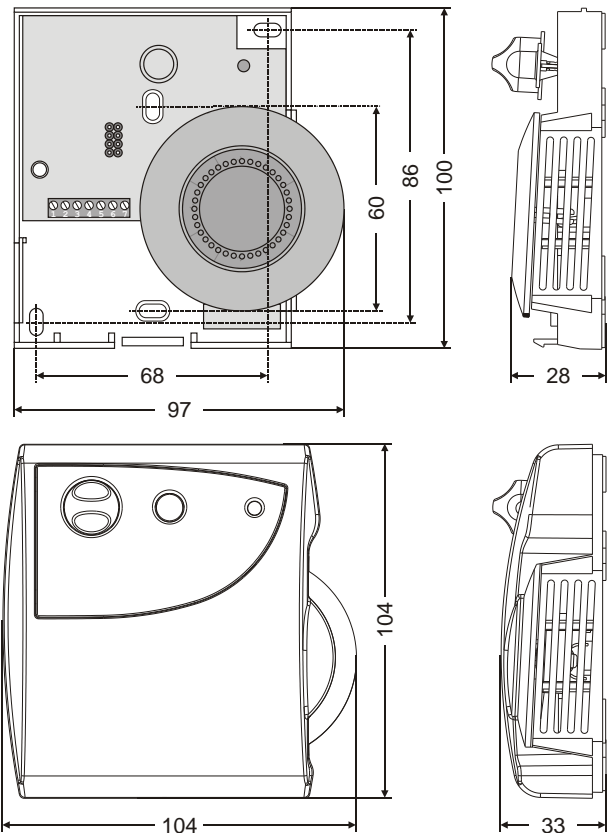

Fig. 2. Bore-holes and dimensions (mm)
The wall modules can be mounted on a 60-mm wall outlet box using 3.5-mm screws or on a wall (see Fig. 2). When mounting directly on a wall, use the type of screws appropriate for the wall material. See Fig. 2 for bore-holes and mounting dimensions (the CLCM5T,6T are shown but the dimensions are the same for all models).
3. Mount the wall module onto the wall outlet box, or bore wall holes as specified in Fig. 2 and mount the wall module with appropriate screws.